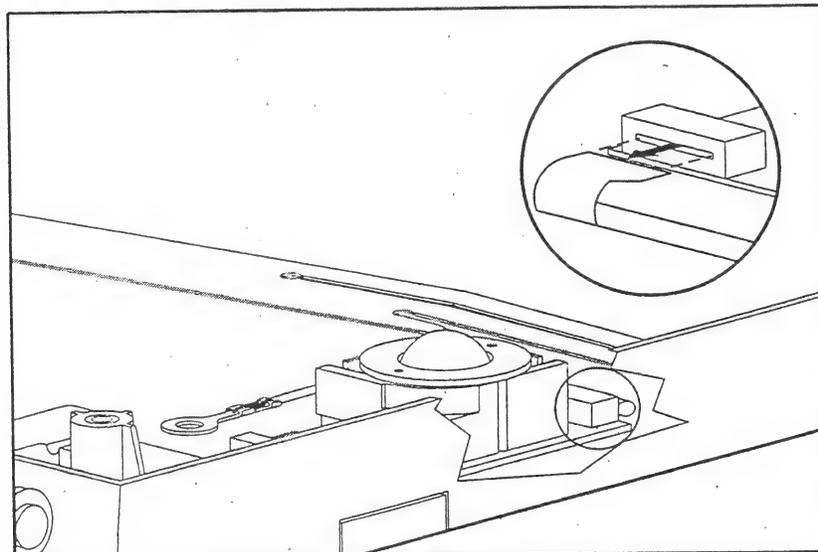

Figure 2-27. Removing the Trackball Connector
4. Disconnect the trackball connector (Figure 2-27).